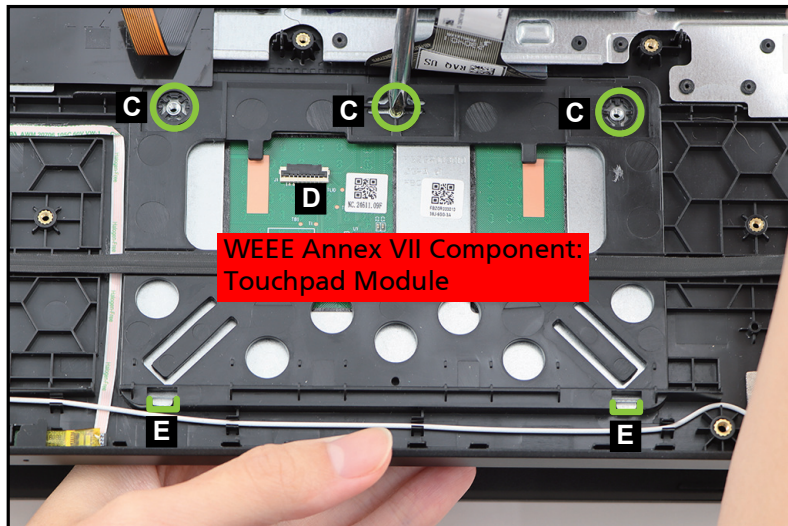

Figure 1-40. Touchpad Module Removal
4. Using the screwdriver, push the guide pins (C) firmly to release it from the top assembly (Figure 1-40).
5. Slide the touchpad module (D) slightly to disengage it from the bottom latches (E) (Figure 1-40). Then remove the touchpad module from the top assembly.